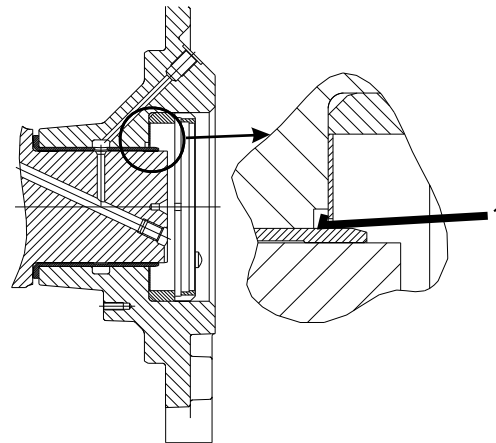

Fig.36: Remove thrust washer with hook (1)
1. Remove the 7 mm. thick housing washer (1) from the hold down disc (4).
2. Remove the needle thrust bearing (2) from the hold down disc (4).
3. Remove the now accessible four M10 socket bolts (3) and the hold down disc (4) which is connected to the shaft washer (5).
4. Remove the shaft washer (5) from the crankshaft.
5. Remove the cylindrical roller thrust bearing (6) from the crankshaft.
6. The released 1 mm. thick thrust washer (7) can be carefully removed with a wire hook as shown Figure 36, Page 24.